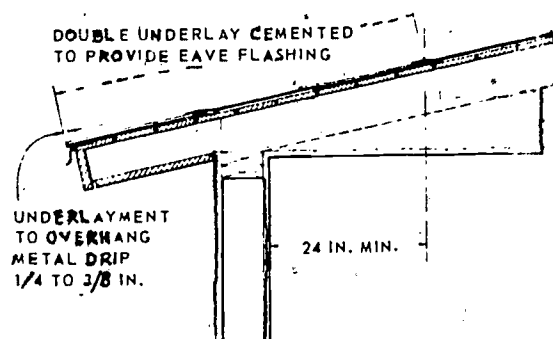

Fig. 10-21. Underlay plies cemented together to form eaves flashing for low-sloped roofs.
2. In areas where the January daily average temperature is 25 deg. F. or less, cement the two felt layers together from the eave up the roof to a point 24 in. inside the interior wall line of the building. See figure 10-21.